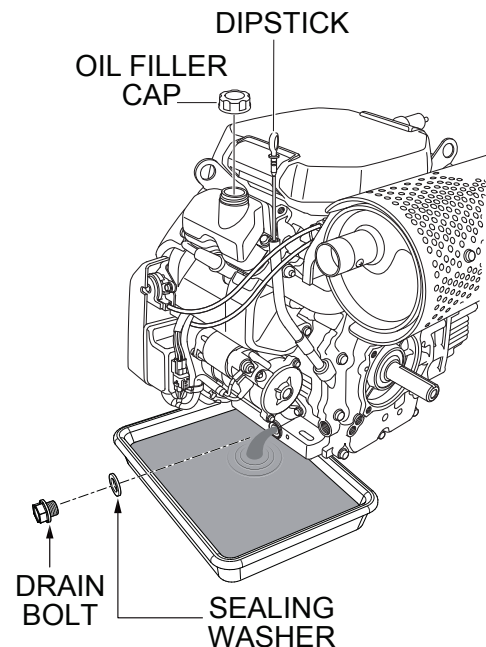

Figure 33. Draining Engine Oil
1. Drain engine oil when the oil is warm as shown in Figure 33.